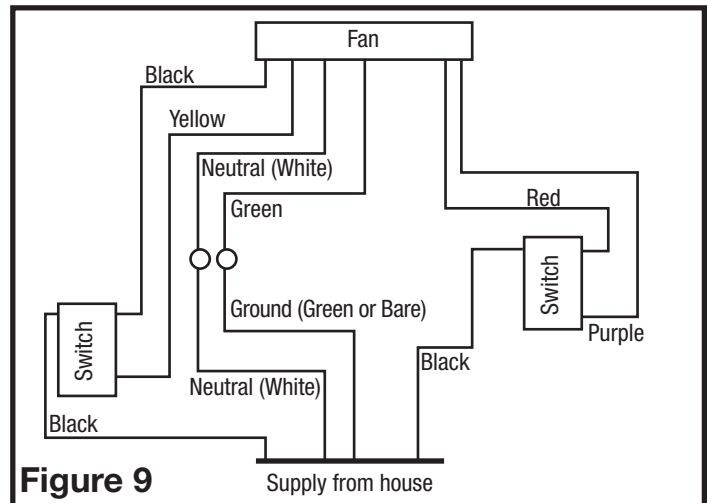

Figure 9
- 3c. **Wiring the Lights:** Using a properly grounded standard wall switch, connect the black wire from the supply to one side of the switch. Connect the Red wire (light) from the fan housing to one of the terminals on the switch. Connect the Purple wire (night light) from the fan housing to a separate terminal on the switch. (**Figure 9**). Use approved methods for all connections.